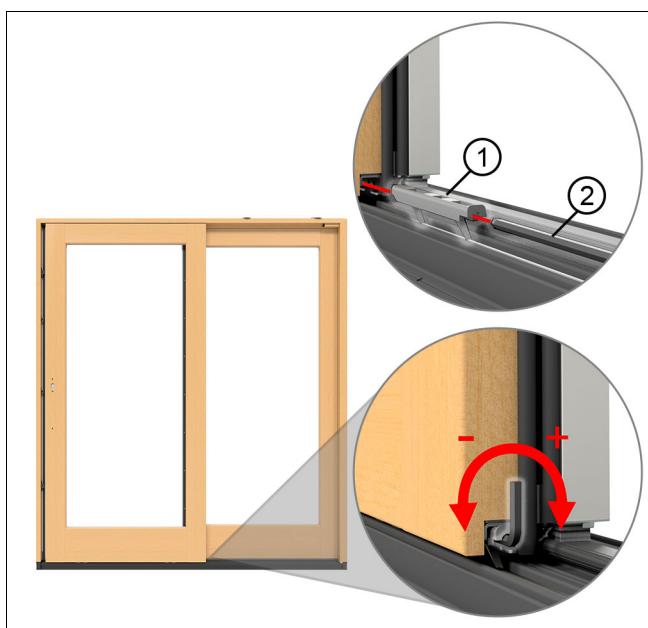
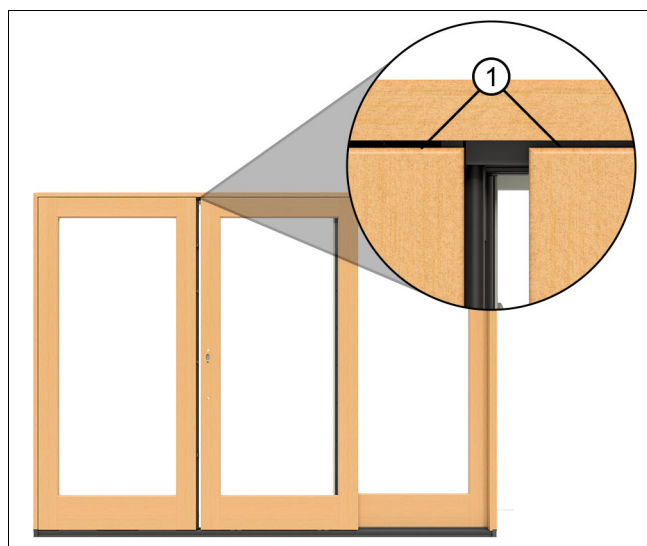

Figure 48
Figure 49 OXO configuration shown.
2. Adjust the panel height to obtain even reveals. Insert the plastic roller adjustment guide in the end of the panel. This will guide the Allen wrench into the adjustment screw. Turn the Allen wrench clockwise to raise the roller and counterclockwise to lower the panel. See Figure 48 and Figure 49.
NOTE: Rollers are set at neutral from the factory. Adjustment from neutral is about 1/8" up or down. The expected gap between the top of the panel and the frame should be about 1/8". See Figure 49.